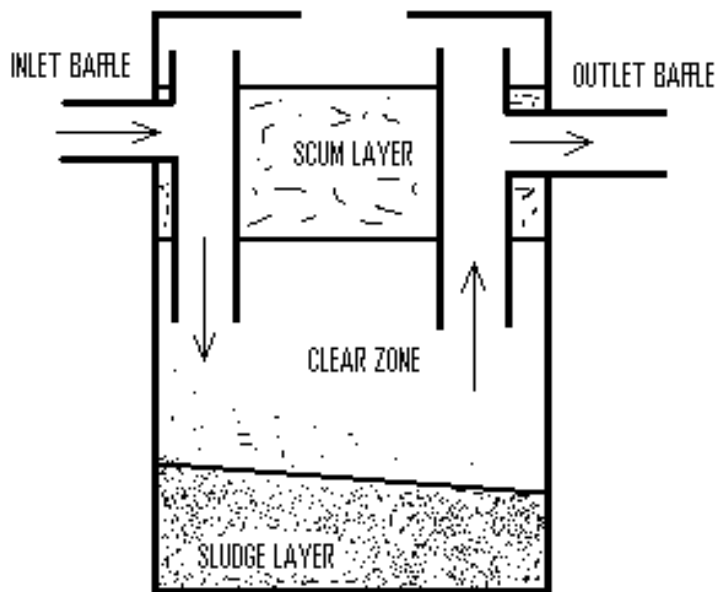

Figure 6. Diagram of a septic settling tank.
Figure 6 (Diagram of settling tank).....	5
- **Check the oil level in the blower regularly.** There are two hex-plugs on the front of the blower. The lower one is the oil level plug (H). To top up, remove the level plug, take out the fill plug on the top of the blower (B), and slowly add until oil flows out the level plug (figure 6). A complete oil change should be done yearly.
Blower oil levels acceptable (if low, add lubricant) (see Figure 6 , p.8)